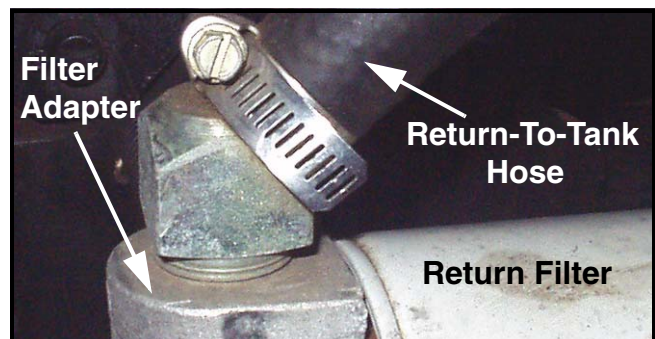

FIGURE 2
8. Place an oil drain pan below the return-to-tank hose connection at the filter adapter. Loosen and remove the hose clamp and remove the return-to-tank hose from the filter adapter fitting, place the hose end into the oil drain pan to drain. Then place the end of the return-to-tank hose into the 5 gal. bucket. See Figure 2.